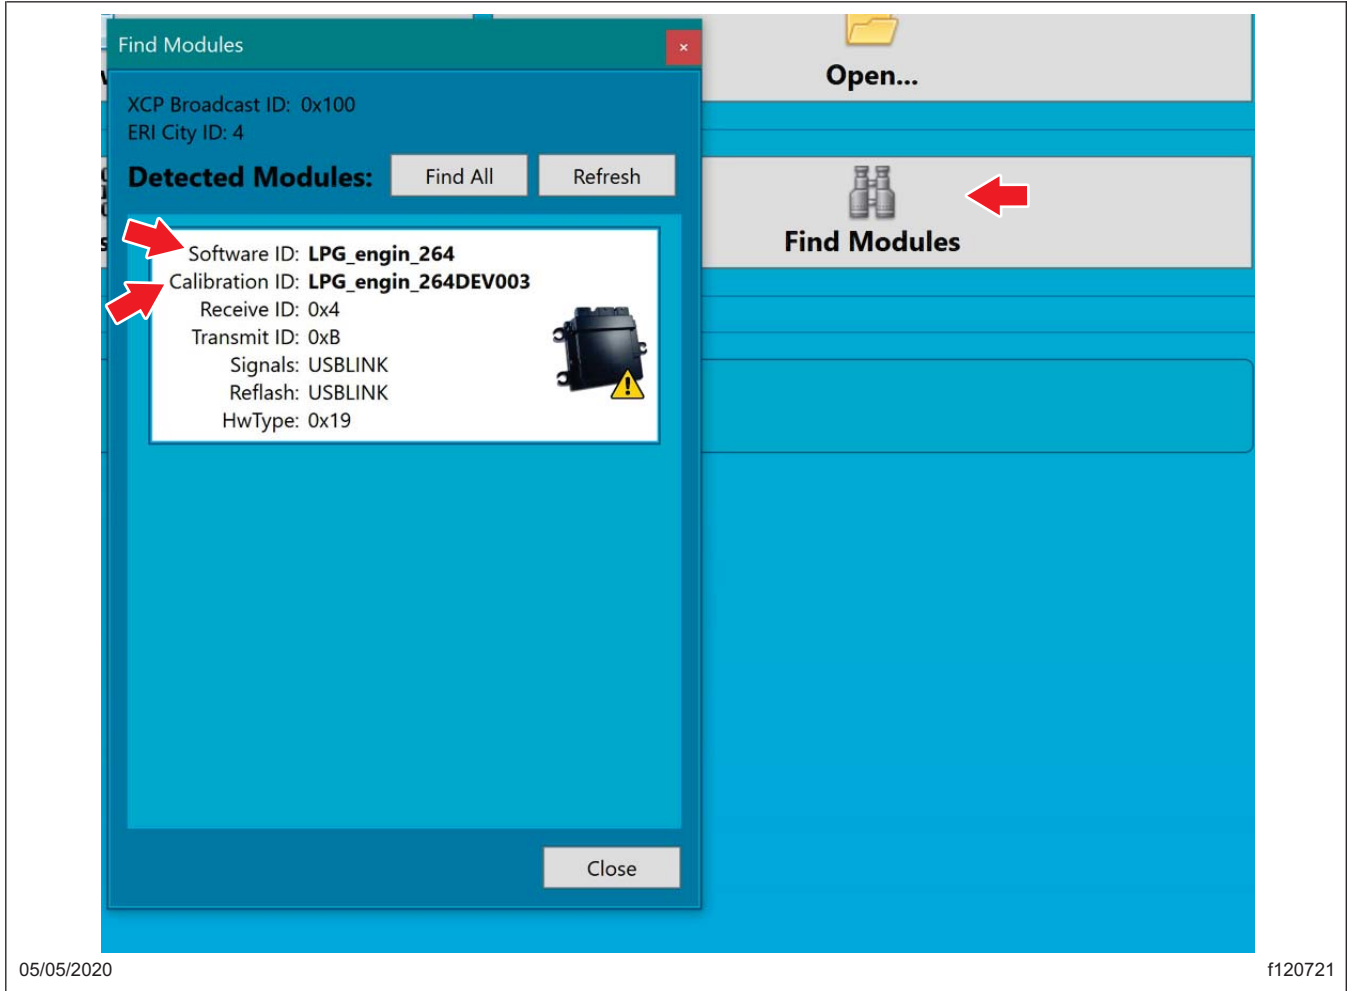

Fig. 26, Find Modules Window
3. Select 'Find Modules'; all of the available modules appear in the window. See Fig. 26.
4. Write down the 'Software ID and Calibration ID' (near the ECU image). See Fig. 26.